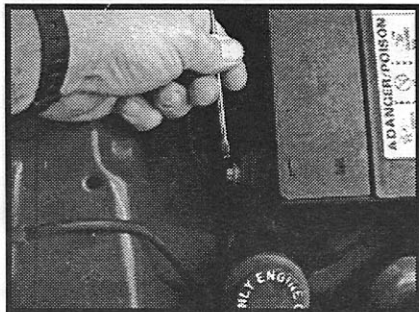

Figure 1
9. Reconnect the negative battery cable. Start vehicle and make sure that the Service Engine Light is not on. (see Fig. 1).
(see Fig. 1).